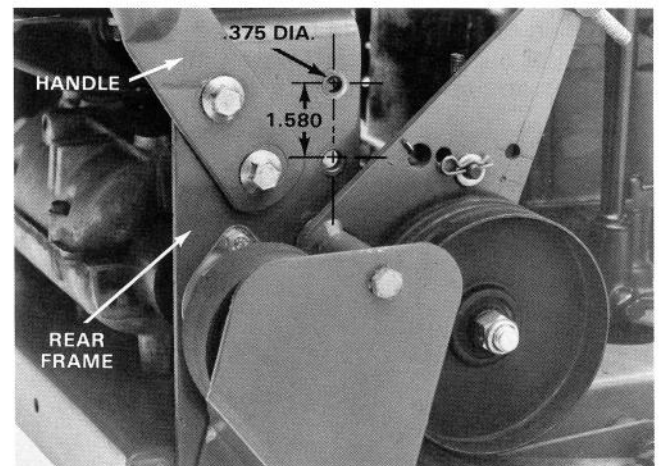

Figure 4
1. Using dimension shown in fig.4, locate and drill a .375" dia. hole in right side of rear frame.
2. Remove (2) flange head capscrews and flange nuts securing right side of handle to rear frame (Fig.4).